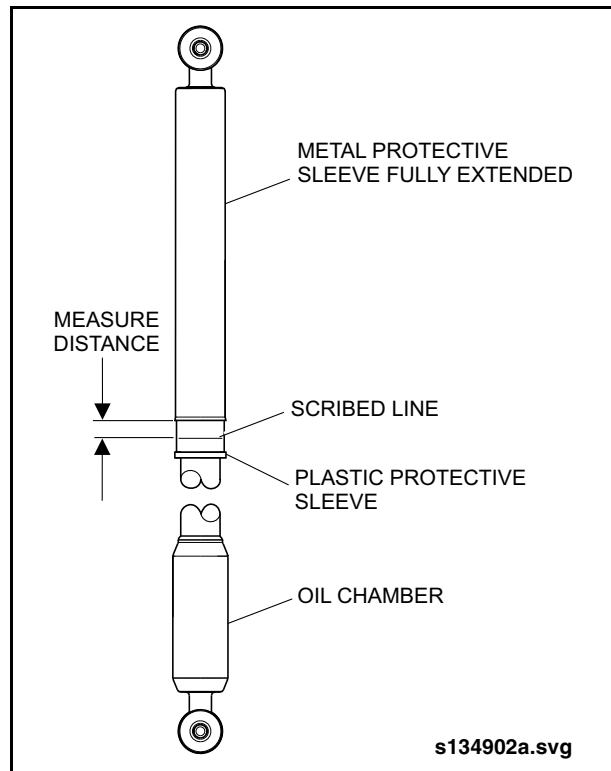

Fig. 2: Damper Measurement
8. Retract the piston upwards until the plastic protective sleeve is fully extended. Measure the distance between the edge of the metal protective sleeve and the mark scribed on the plastic protective sleeve. See "Fig. 2: Damper Measurement" on page 3.